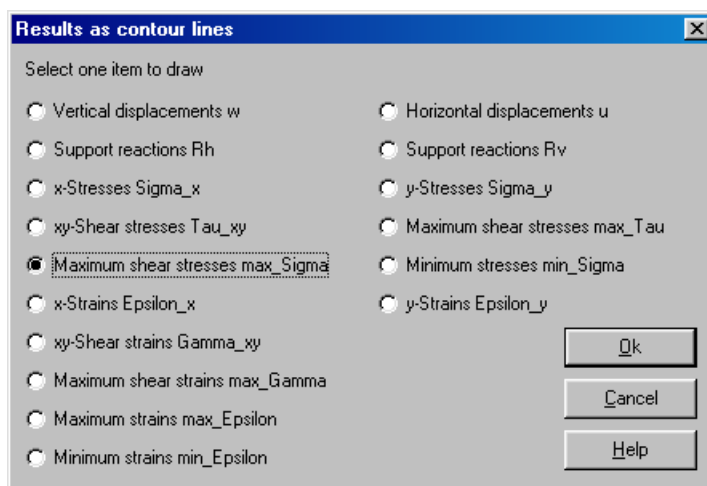

Figure 5-36 "Results as contour lines" option box
- Choose "Results as contour lines" command from "Graphic" menu of *ELPLA-Graphic*. The following option box in Figure 5-36 appears